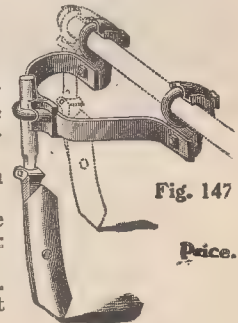

Fig. 147
Fallow tooth Fig. 140, Double Row Extension, Fig. 147
**Double Row Extension Attachment (Fig. 147).**—We offer as an attachment a double row extension for use in cultivating two rows, at a single passage, of beans, potatoes and other crops planted equally as close. It does excellent work,—no open furrows next the crop as the outside tooth is in advance of the rear one. For fallow work and in cultivating especially wide rows, this attachment is also very valuable. Price, per pair.